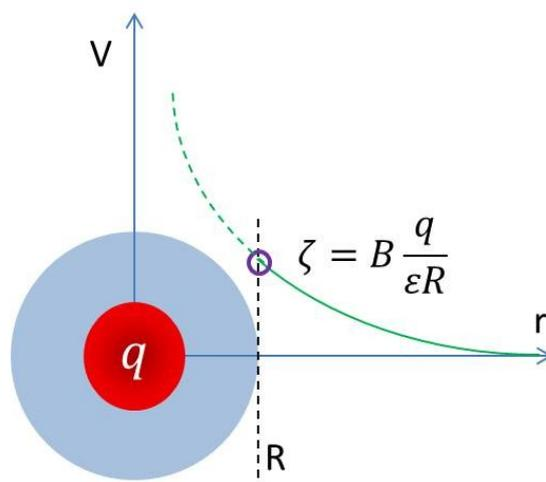

Figure 17: Zeta potential
where B and b are constant factors, η is solvent viscosity and ε is solvent dielectric constant. ζ has the dimension of an electrostatic potential like V for an equivalent charge Bq (see (2) and **Figure 17**); it is called the Zeta potential. In fact, ζ represents the electrostatic potential measured at a distance R from the center of the particle. According to the Stokes model, the hydrodynamic radius R of the
particles is the physical radius of the particles plus the surrounding ions/molecules environment “stuck” to the particle (see **Figure 17**). Therefore, the potential of the particle at this *new* radius, determining the amplitude of interaction with the other particles, is a fundamental characteristic of the stability of solution. Indeed, the lower the zeta potential, the easier it is for two particles to approach each other and eventually to aggregate together, so the less stable is the colloidal suspension.